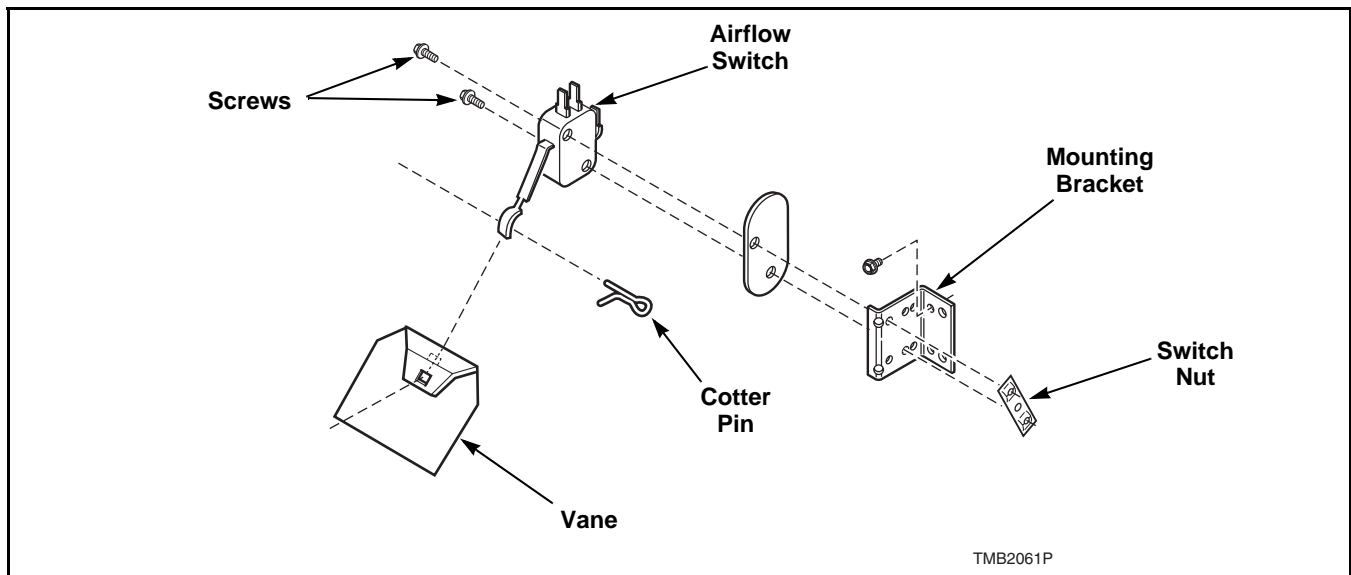

Figure 13
- c. Disconnect wires from switch. Refer to *Figure 13*.
- d. Remove screw(s) holding switch and mounting bracket to tumbler. Refer to *Figure 13*.